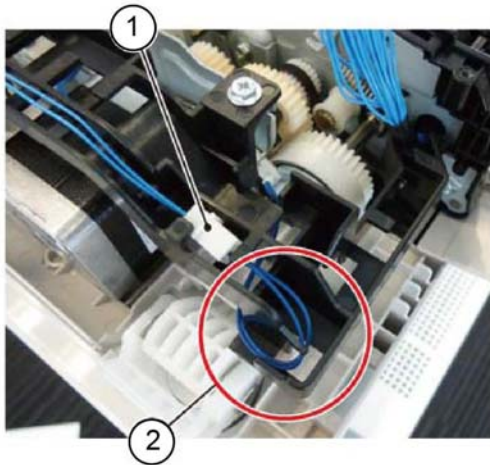

Figure 6 DADF T/A clutch connector
9. Disconnect the DADF T/A clutch, **Figure 6**:
- a. Disconnect the connector (1).
- b. Remove the harness from the harness guide (2).